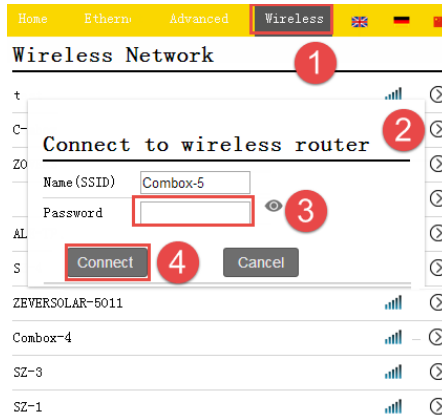

Fig. 5-11: connecting to wireless network
Step3: Select the wireless page and select a router in the [Wireless Network] area to connect. The Password/Security Key dialog box opens, as shown in Fig. 5-11.